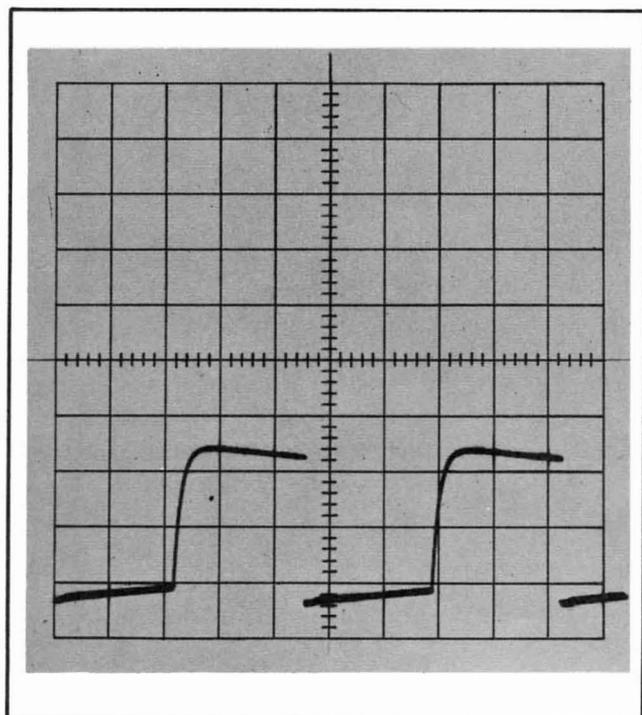

Figure 4-22. CHOPPER DRIVE SIGNAL
- j. Compare the displayed waveform to that shown in Figure 4-22.